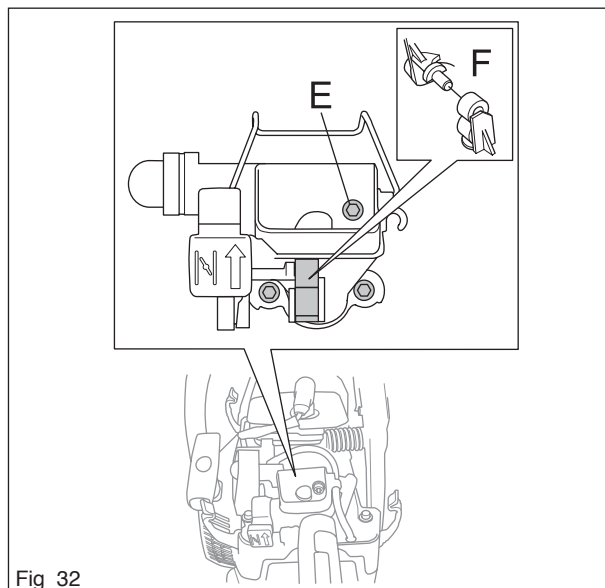

Fig 32
5. Loosen the screws (E) and unhook the rubber mountings (F) (see figure 32).